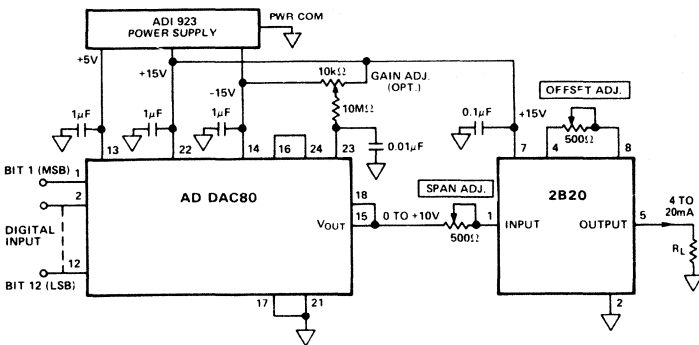

Figure 6. AD DAC80 - 4 to 20mA Current Loop Interface
**Interfacing Voltage Output D/A Converters:** The 2B20 is well suited in applications requiring 4 to 20mA output from D/A converters. The voltage necessary to power the current loop can be derived from the same +15V supply that is used to power the converter. The D/A converter, such as the 12-bit AD DAC80, should be connected for operation on the unipolar 0 to +10V output range. This is shown in Figure 6. After the load resistor connection has been made, the current loop can be calibrated using the offset and span adjustment potentiometers associated with the 2B20 (or the AD DAC80). First, a digital input code of all zeros is loaded into the D/A, and the offset adjustment potentiometer is adjusted for a current output of exactly 4mA. Then, a digital code of all 1's is loaded into the D/A, and the span adjustment potentiometer is adjusted for a voltage across the load that corresponds to a current of 20mA -1LSB = 19.9961mA.